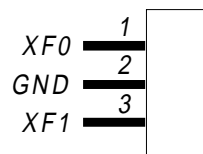

Fig.2-13. XF0/XF1 I/O signal connector of *TORNADO-E31*.
*XF0/XF1* parallel digital I/O lines are programmable I/O pins of the on-board TMS320C31 DSP, which are available via the JP3 on-board connector (fig.2-13).